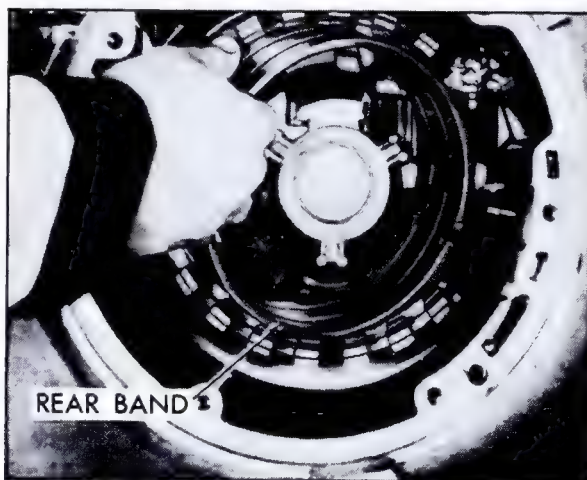

Fig. 7-109 Installing Rear Band Assembly
2. Install rear band assembly in transmission case so that band lugs index with anchor pins, Fig. 7-109.